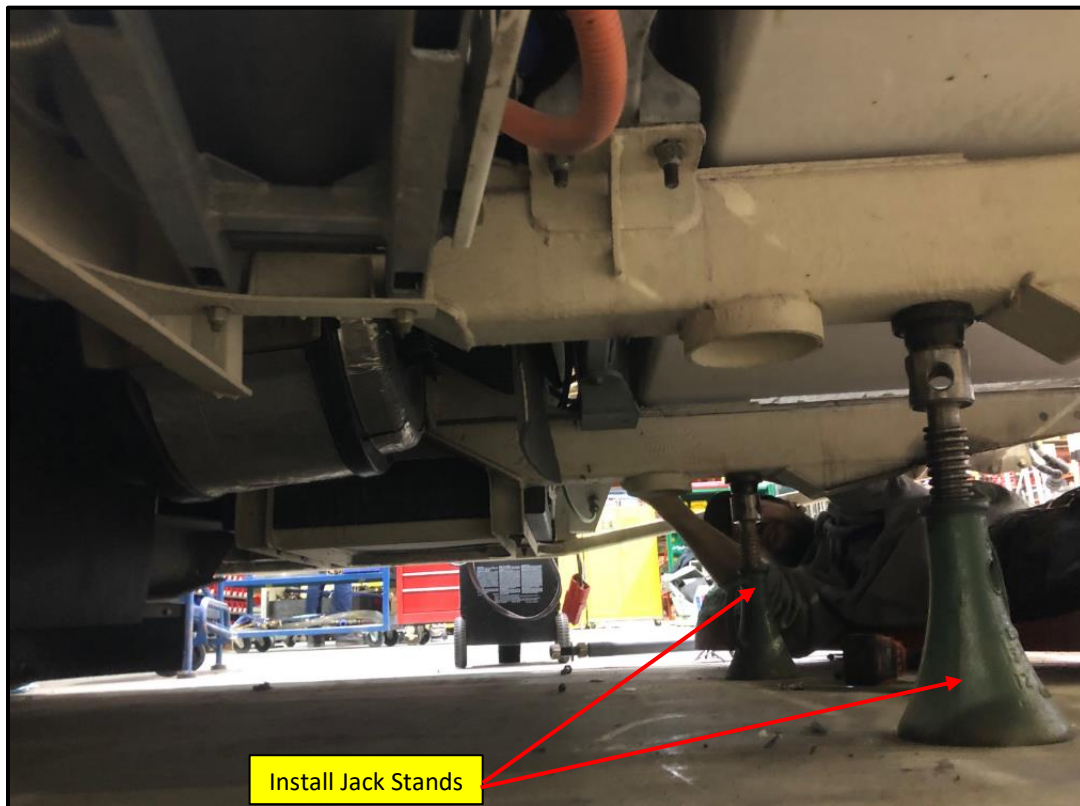

Figure 19: ESS Frame Member Jack Stand Location Reference.
62. Support the rear frame members with jack stands. See Figure 19.